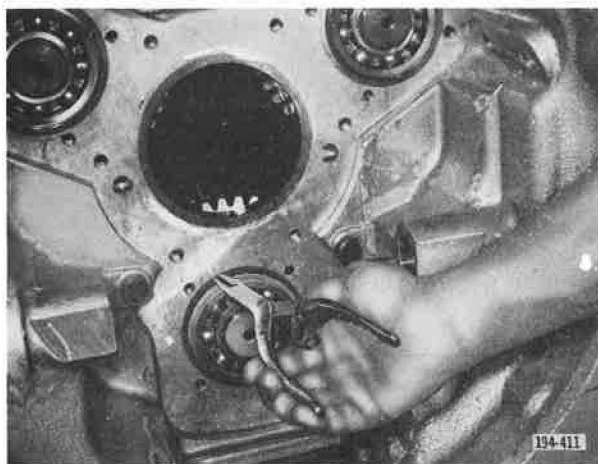

Figure 5-628. Installing Countershaft Front Bearing Positioning Snap Ring
2. Position front case horizontally. Install front countershaft ball bearing positioning snap rings in outer race of bearings, then tap countershaft assemblies rearward until positioning snap ring seats against case. See Figure 5-628.